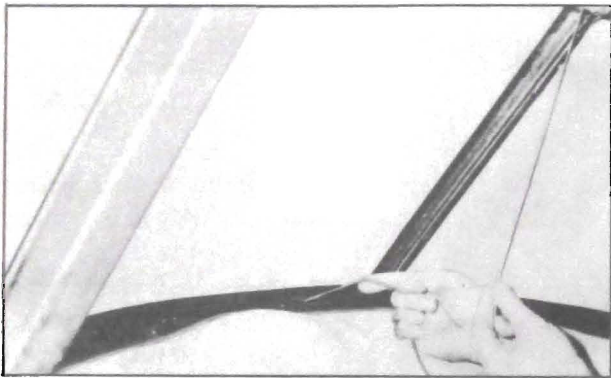

Figure 13-27—Pulling Lip of Channel Over Pinchweld Flange
8. Press the glass and channel firmly into position in body opening. Have the helper on inside of body pull the cord out in such manner that lip of rubber channel is brought over the edge of pinchweld flange. See figure 13-27.